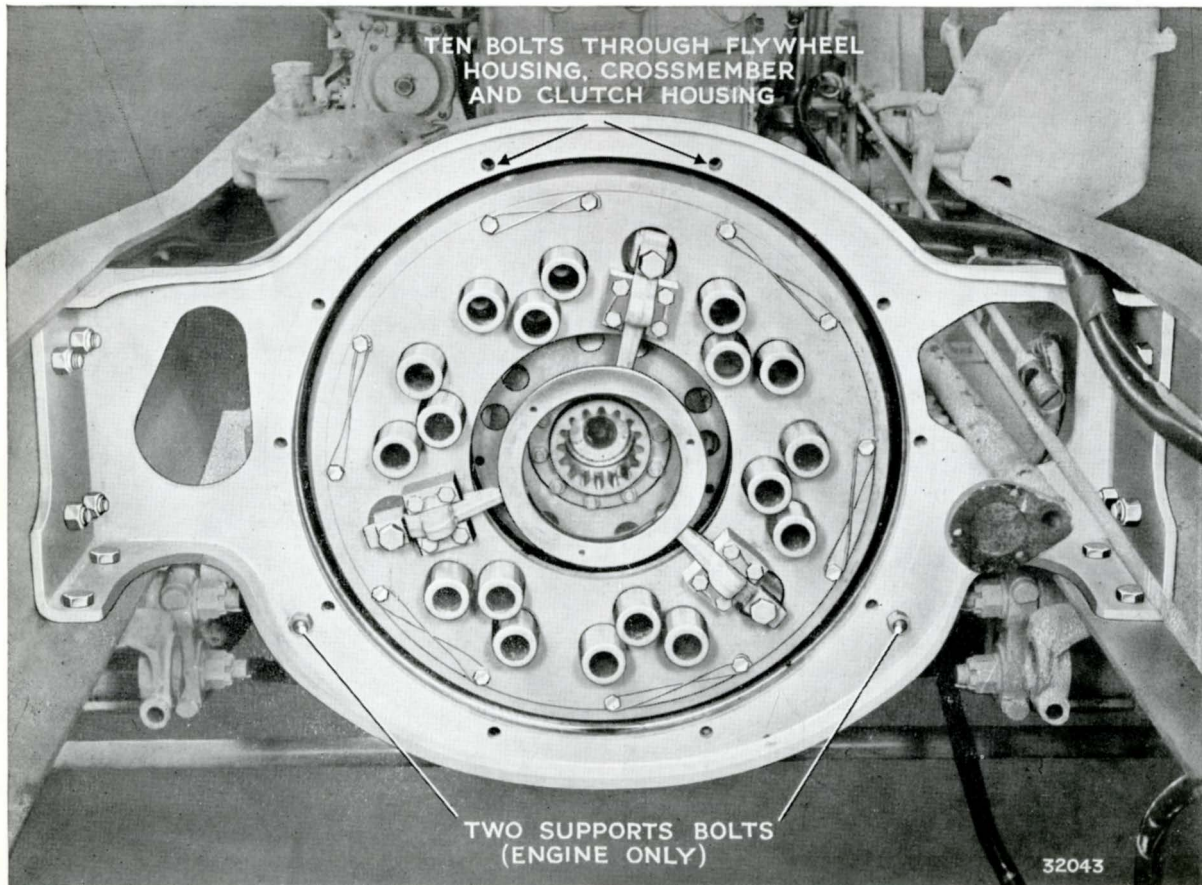

FIG. 30. ENGINE REAR MOUNTING
14. Support the gearbox, remove the bolts securing the engine and gearbox through the banjo cross-member, Fig. 30, ease the gearbox back clear of the clutch driving centre and lower the unit to the floor.
15. All the interconnecting parts have now been removed except the two engine mounting bolts in the banjo crossmember, Fig. 30, and the front crossmember bolts. The weight of the engine must be taken with a suitable crane before removing these bolts.